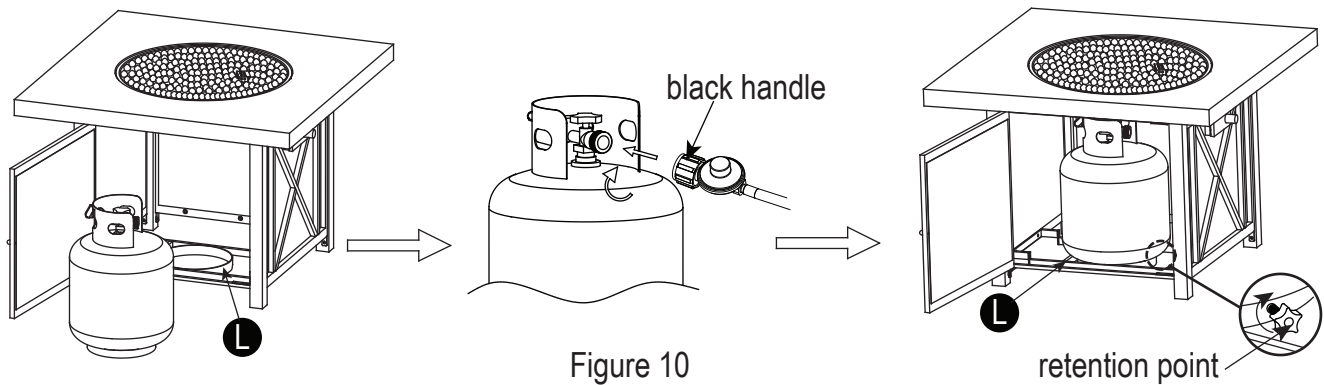

Figure 10
11. Open the door. Place the gas cylinder into the gas cylinder support (L) and connect the regulator by turning the black handle clockwise to tighten. To remove the regulator, turn the black handle counter-clockwise. Secure the gas cylinder by tightening clockwise the retention point found on gas cylinder support (L), so that the gas cylinder cannot move from side to side or fall down. The knob on the control panel is turned all the way to the “OFF” position when the fire pit is NOT in use (see Figure 10).